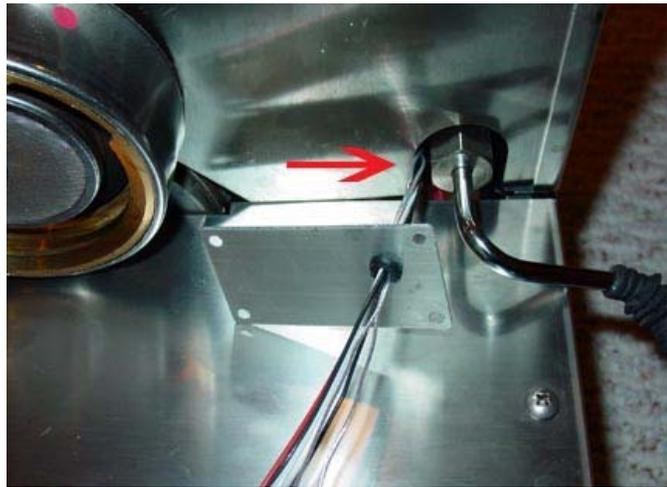

Figure 16, Cables going through the back panel of the controller box.
- 3) Install the splash guard panel back to its original position (figure 8 above). Feed the two SSR output cables into the boiler compartment. Feed the SSR input cables (the thin red and white ones) to the outside through the space around the steam wand (Fig 16 below)
- 2) Fit the controller power cables and RTD sensor cables to the outside through the gap around the steam wand (red arrow in Fig. 16). Collect the SSR control cables from the back of the splash guard pane. Fit all cables through the rubber grommet on the back panel of the controller box. Make sure the direction of the back panel is as shown in figure 16. The surface with chamfered screw hole is the outside surface. Cables should come from the outside surface to the inside. You need to fit the cables through the grommet one at a time. There are six cables total.